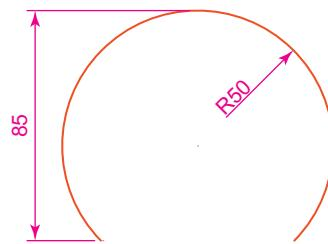

Fig. 14.40 Second example – 3D Surface – the part circle to be extruded
1. In the **Top** view on a layer colour **red** construct the circle Fig. 14.40.